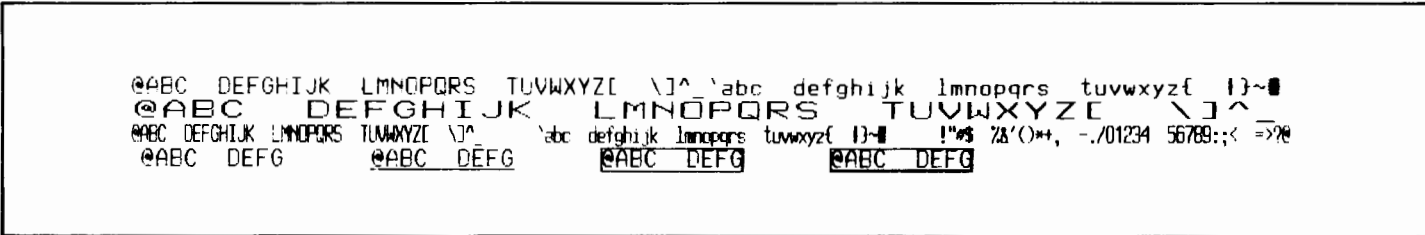

Figure 6-7. Integral Printer Test Pattern
**PRINTER TEST** ..... **DESCRIPTION.** This test exercises the integral printer. A self-test of the printer is performed and then a pattern of characters, print types, and display enhancements are printed on the paper (figure 6-7).